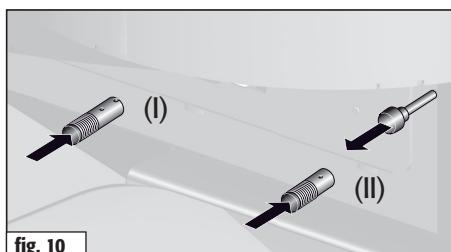

fig. 10
Adjust primary air.	Set primary air slider (I) to position 2. (fig. 10)
Adjust secondary air.	Set secondary air slider (II) between position 1 and 2. (fig. 10)